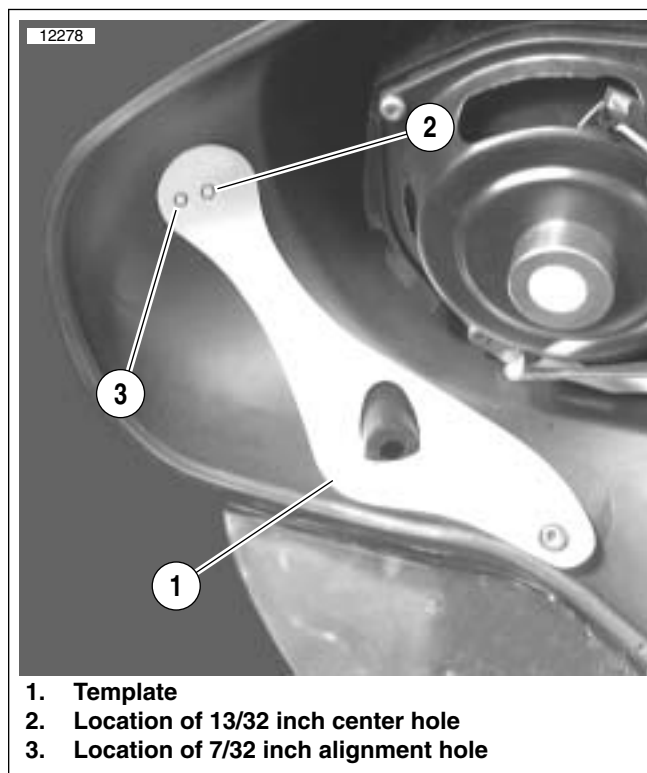

Figure 1. Drilling Template Position
2. See Figure 1. Place template (1) on inside of inner fairing as shown to locate mounting holes for mirror. Make sure entire template lays flush against fairing contour.
4. For the center hole (2) where the 3/8 inch (9.525 mm) threaded stud passes through the fairing use a 13/32 inch (10.319 mm) diameter twist drill to drill the hole to its final size. For the alignment hole (3), use a 7/32 inch (5.556 mm) diameter twist drill to drill the hole to the final size.